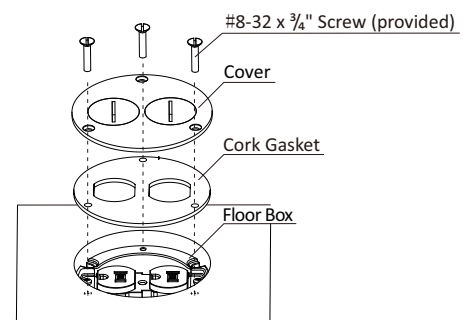

Fig. 12
6. Place the cork gasket on bottom box, then place the top cover, ensuring their three holes are aligned. Secure them tightly to the bottom box using three #8-32 x 3/4" screws (provided) (Fig. 12).